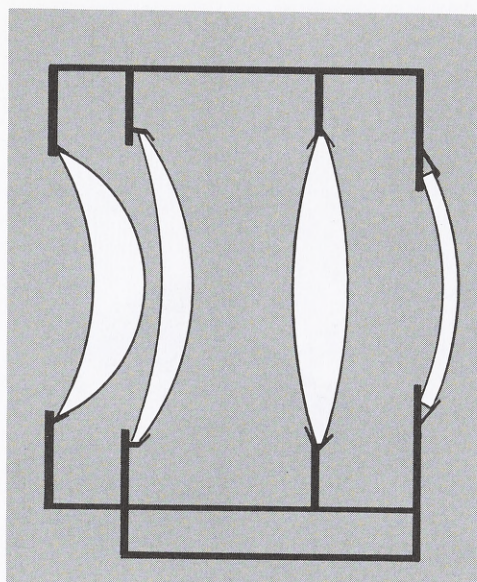

Figure 6
- C. **CONDENSERS:** Three condensers can be readily interchanged. Condenser #3592 is used only for 2" x 2" slides. For larger slides, condenser #3622 must be used (with objective having focal length of 12-1/2" or less) or condenser #3623 (with objective having focal length of 15-1/2" or more) See Figures 6, 7 and 8 and Projection Chart.
- B. CLEANING CONDENSER ELEMENTS: (Lift out condenser chest. See section V, A). Condenser elements in the No. 3622 Condenser Chest can be removed for cleaning by compressing loop on the retaining clip at top of chest and removing clip. The top of the 3592 Condenser Chest slides off to permit removal of the elements for cleaning. Carefully note how lenses are positioned (Fig. 6, 7 & 8) before removal. Clean with lens cleaning fluid and lint-free cloth. Replace carefully to avoid chipping lens edges. Be sure all fingerprints are removed.